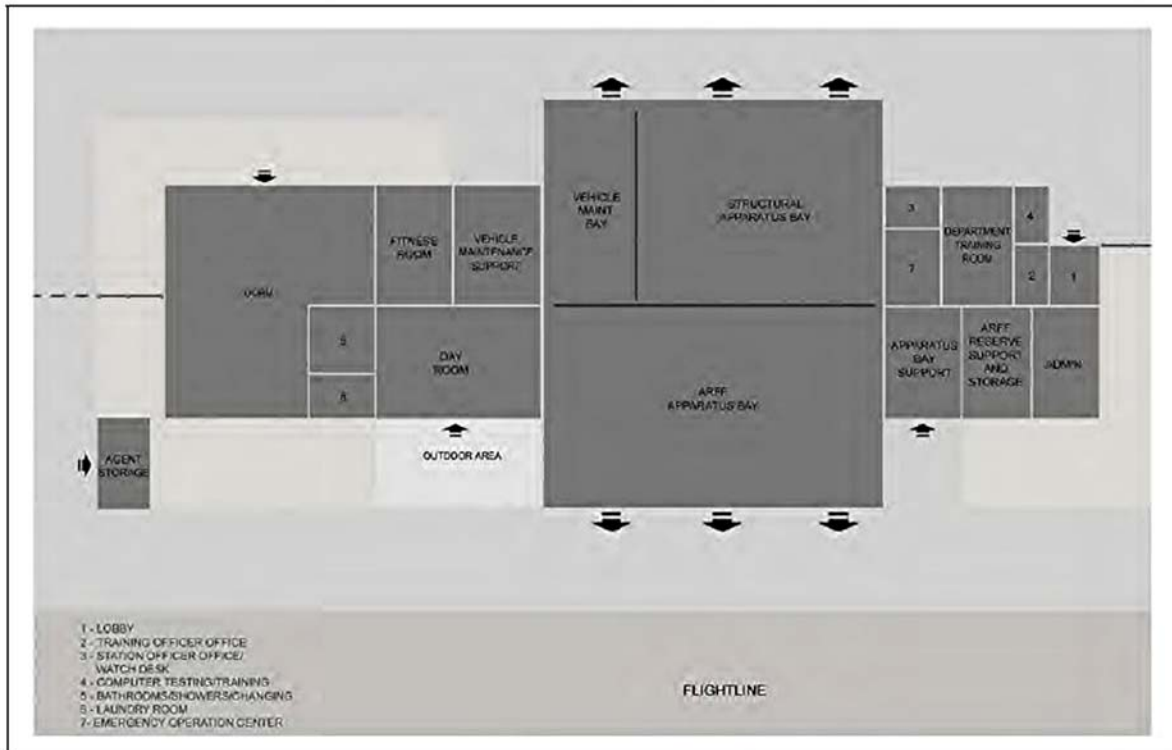

Figure 2-4
2.5.2.3 Figure 2-4. This diagram illustrates a layout for a Large HQ station. This diagram also captures some of the key relationships for any combination station, regardless of size—in particular the need for separation of ARFF and Structural trucks relative to a flightline.